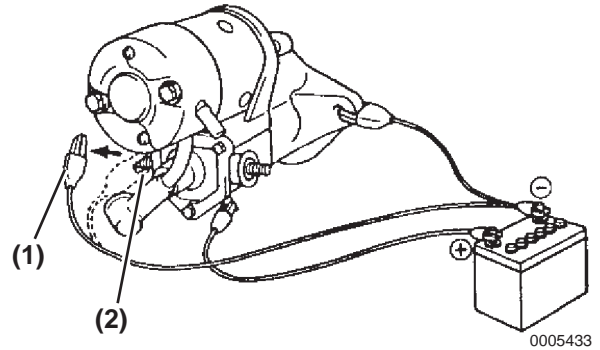

Figure 10-45
Under the above condition where the clutch pinion gear is located outside and the battery is connected, disconnect the negative (-) lead (Figure 10-45, (1)) from terminal C (Figure 10-45, (2)). Check that the pinion gear is at the outside. If it has returned to the inside, replace the magnetic switch assembly.